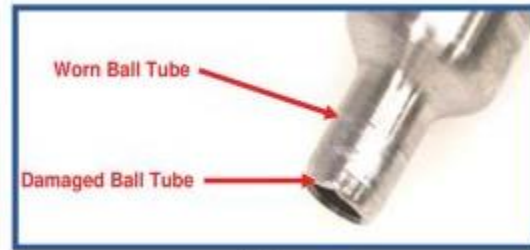

FIGURE 3
- Poor D-ring to the Ball Tube Seal from reuse of worn Ball Tube (Check Figure 3)